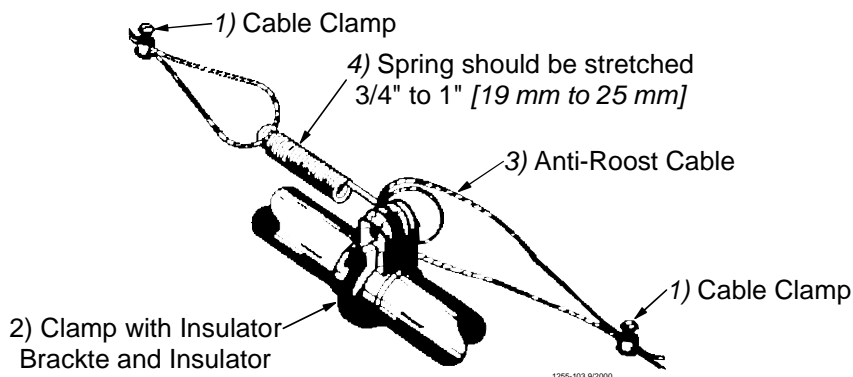

Figure 39. Anti-Roost Cable Mid-Line Connection
4. Attach a spring in the center groove at the second anti-roost bracket and cut the cable at this point. See **Figure 39**.
5. Thread the ends of the cable through the end of the spring. Pull the cable tight so that there is 3/4" to 1" [20 to 25 mm] of stretch in the spring. Clamp the cable to form a loop and cut off any excess. See **Figure 39**.
6. Attach the cable to the insulator. For best results, make a double loop around the anti-roost insulator in the center groove of the insulator and fasten with a 1/16" cable clamp as shown in **Figure 39**.